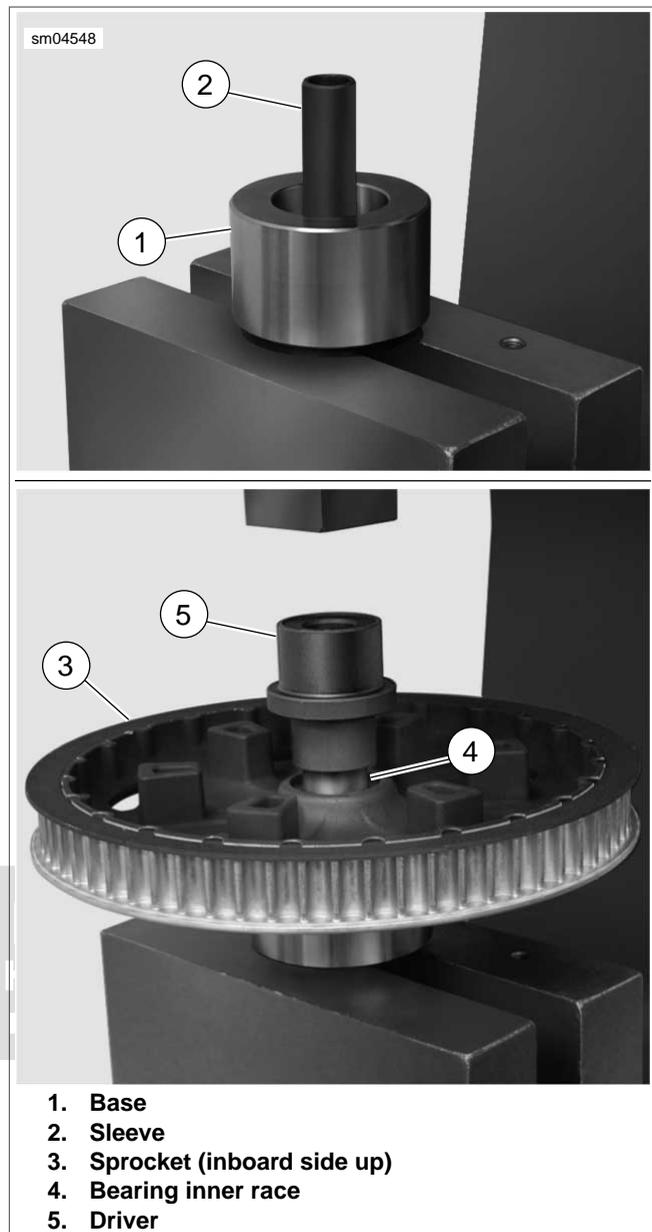

Figure 2-11. Remove Compensator Sprocket Bearing
6. Slide sleeve over base pin. See upper frame of Figure 2-11.
8. Slide small OD of driver over sleeve until contact is made with extended inner race of bearing. See lower frame of Figure 2-11.